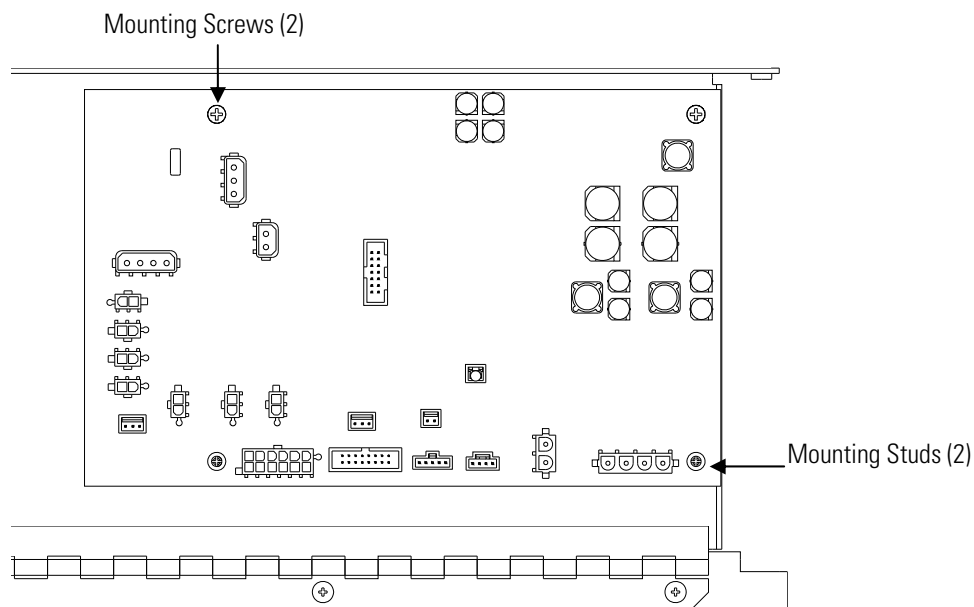

Figure 7–22. Replacing the Measurement Interface Board
3. Unscrew the two screws at the top of the measurement interface board. Pop off the measurement interface board from the two bottom mounting studs and remove the board (Figure 7–22).
Use the following procedure to replace the front panel board (Figure 7–23).